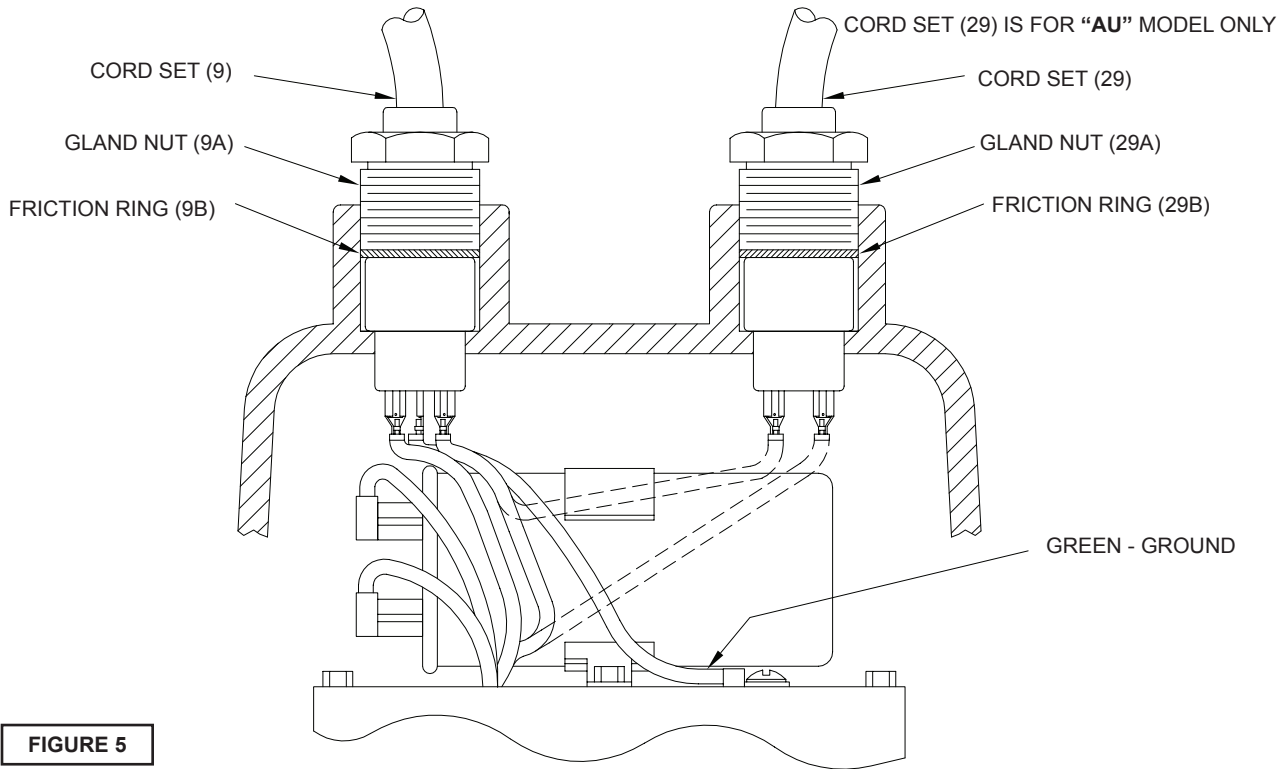
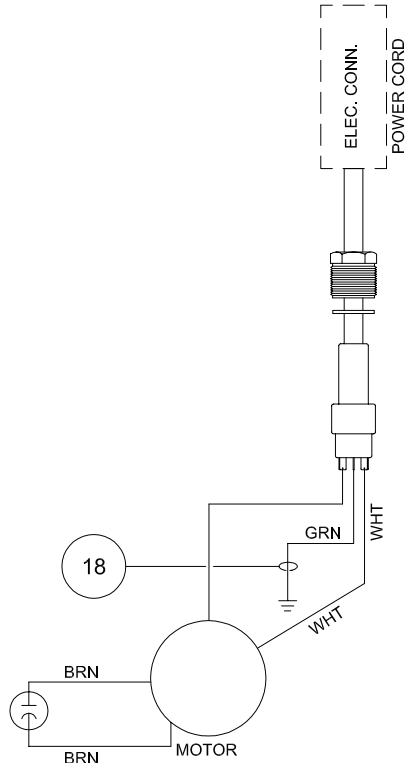
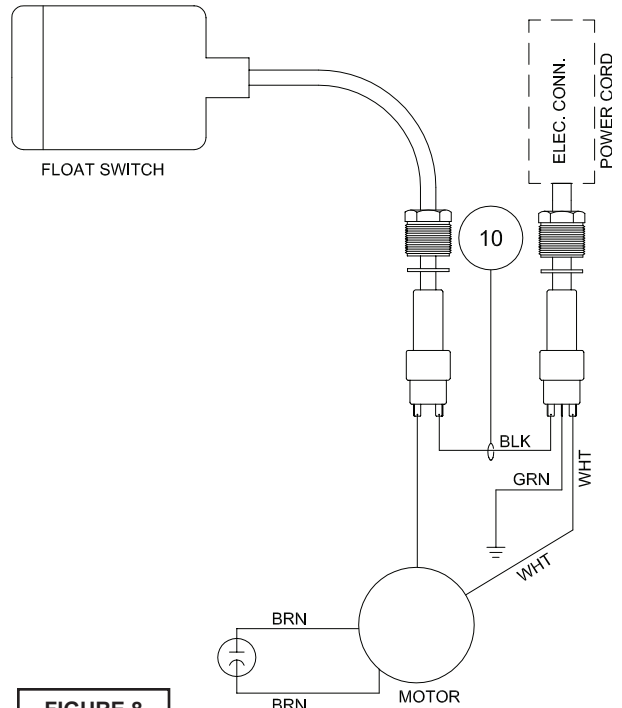

FIGURE 5
FIGURE 7
FIGURE 8
BP & SE Series, Motor - To examine or replace the motor (1) or bearing (4), remove body and impeller as per section F-2.1. Drain oil from motor housing as per section F-1.2. Remove gland nut (9a) and friction ring (9b) from motor housing (14). Pull cord through opening and disconnect the motor wires from the terminals on cable (9), see Figure 5. Remove socket head screws (15) and lift motor housing (14) from seal plate (2). Remove o-ring (13) and inspect for breaks. Loosen motor screws and pull motor (1) straight up and off seal plate (2). Inspect all parts for signs of wear and check motor resistance values.
On "AU" series pumps gland nut (29a) and friction ring (29b) must also be removed from motor housing (14) and pulled through opening and motor wires from the terminals on cable (2), see Figure 5.
On **BP & SE Series**, slip motor wires through opening in motor housing (14) see Figure 5. Connect motor wires to cord set as per Figure 7. Place friction ring (9b) and gland nut (9a) into motor housing (14) and tighten gland nut to 17.5 ft. lbs. On **“AU”** series pumps slip float wires through opening in motor housing (14) and connect to float cable (29) see Figure 8. Place friction ring (29b) and gland nut (29a) into motor housing (14) and tighten gland nut to 17.5 ft. lbs.